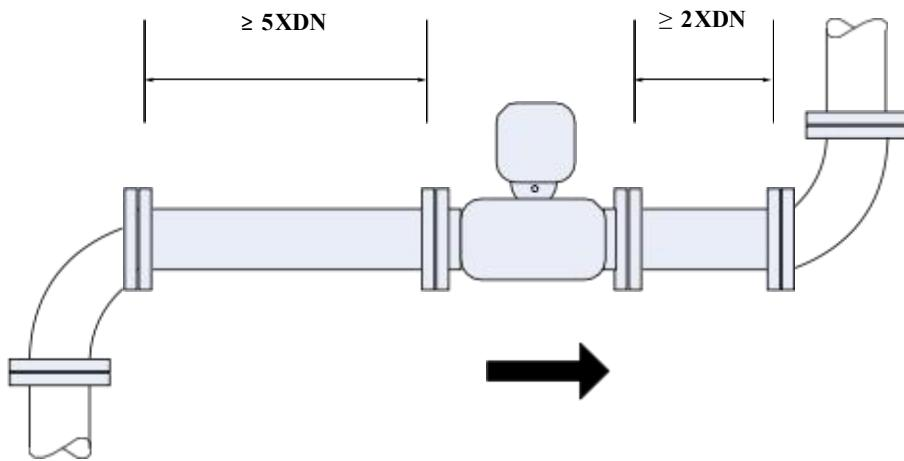

FIG. 7 Front/Rear Straight Pipe Segment
- c. Front and rear straight pipe segments: The length of the inlet straight pipe segment is $\geq 5XDN$ (DN = measuring pipe diameter), 10XDN is recommended if possible. The length of the outlet straight pipe segment $\geq 2 \times DN$, as shown in Figure 7.